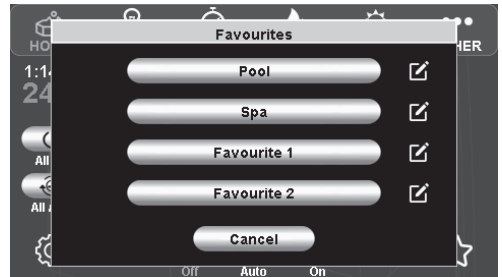

Figure 16. Halo Favourites Edit List Screen
*Figure 16* assumes that a pool and spa are installed.